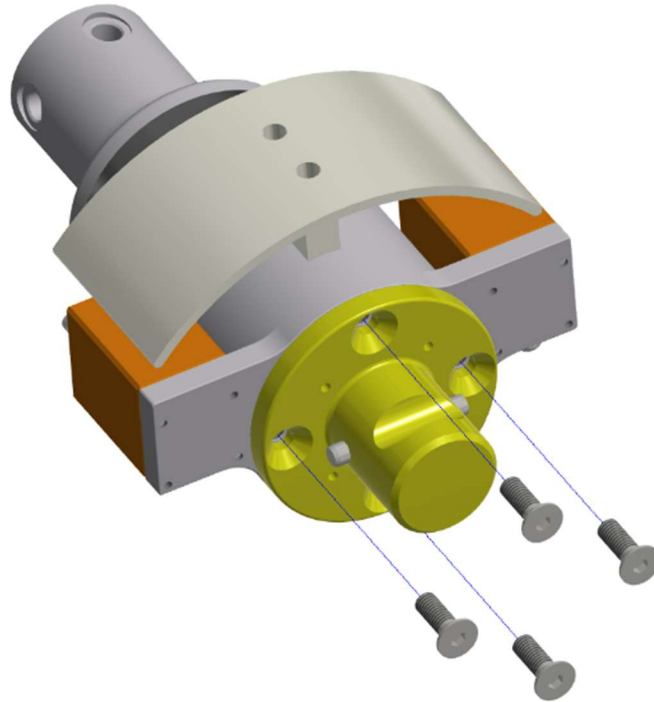

Figure 9-34. Secure Femur Attachment Plate (474-5161)
- 9.3.4 Assemble the Femur Attachment Plate (474-5161) to the Femur Bushing Assembly (474-5164) by installing four M6 X 1 X 18 FHCS (Figure 9-34). Ensure the notch on the Femur Attachment Plate is in the same direction as the two bolt holes on the Femur Bushing Assembly (Figure 9-34).